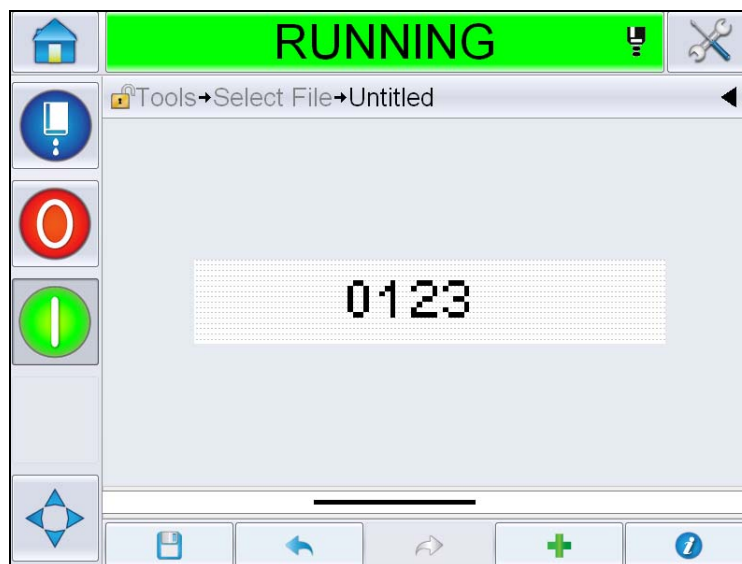

Figure 5-34: Counter Field on Message Page
- 14 Select and set the parameters as per the requirement and touch OK. The message with selected format is displayed on the *Message* page (Figure 5-34). Proceed to Step 18 on Page 5-38 to save the message or go to the next step to add another field.